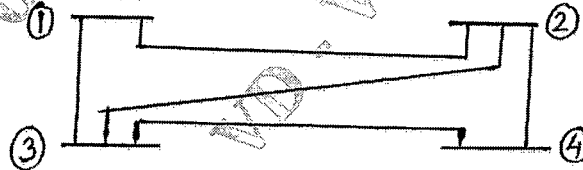

Fig.Q.3(c)
c. Obtain the load flow solution using Gauss-Seidal method at the end of one iteration of the power system shown in Fig.Q.3(c). The data is given in Table Q.3(c)-1 and Table Q.3(c)-2.